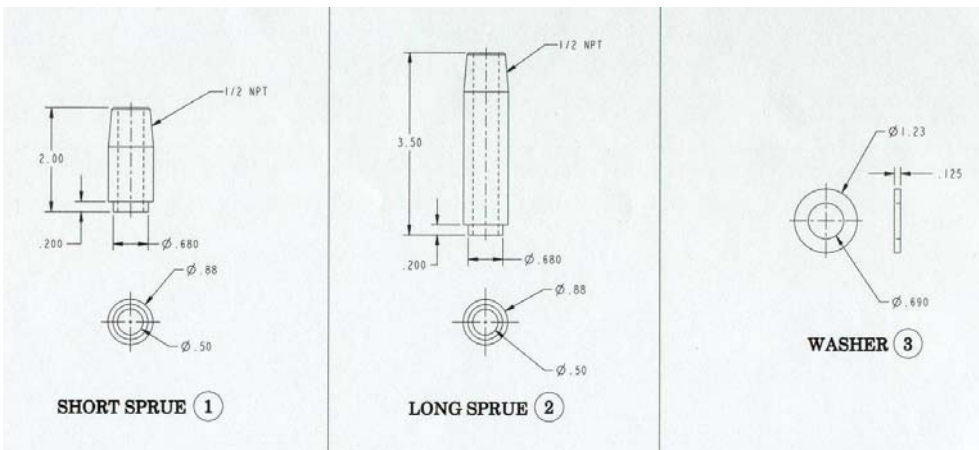

Figure 41- Sprue washers and extensions
- 6.46.3 Mount the G-11 sprue washers to the chill plates in the areas that were pre-cut to accommodate the epoxy feed sprues. Secure in place using **3M adhesive cement #CA40H**. Pre-apply by brushing, **3M Accelerator “Pronto Surface Activator”** to the chill plate that will mate with the washer. Apply the cement to the sprue washer and place on to the chill plate. Repeat for all sprue locations. [Figure 41- Sprue washers and extensions]
- 6.46.15 Install the long and short sprue extension to the sprue washers. This requires cutting the bag where the washers are located. The sprue locations can be easily identified after the initial vacuum pump-down. The lead technician shall decide whether a long or short extension will be used. [Figure 41- Sprue washers and extensions]